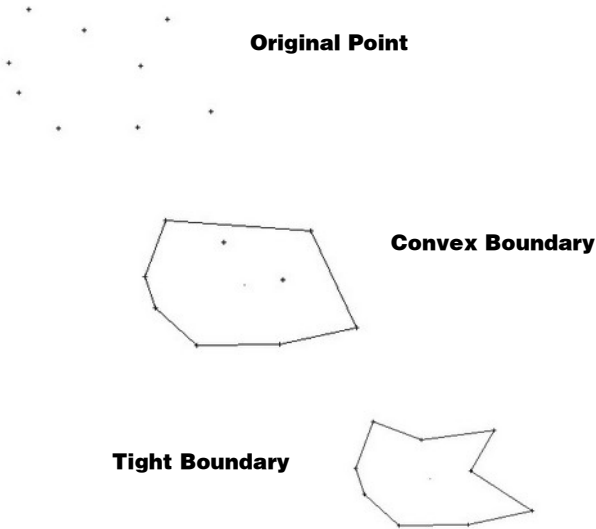

Figure 14-104. Example – Convex and Tight Boundary
- Convex Boundary: this method will create a convex boundary around the extent of the selected points (Figure 14-104 on page 14-84). The boundary will enclose all of the selected. The boundary will be created on the active layer.
- Tight Boundary: this method will create a boundary passing through each of the outer points selected, thus forming a shrink-wrap of the points (Figure 14-104 on page 14-84). The boundary will be created on the active layer.